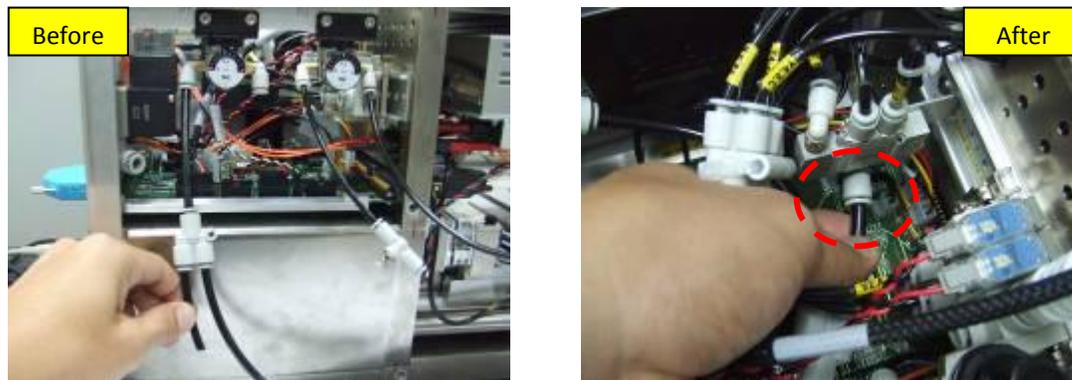

Figure 16: Plugging the M6 tubing end from Y-joint 6 to 6 into the elbow fitting
14. When this is completed, plug the M6 tubing end from the Y-Joint 6-6 to the elbow fitting of the Air Pilot Valve (Brand: SMC, MPN: SYA3210-C4) as indicated in Figure 16.